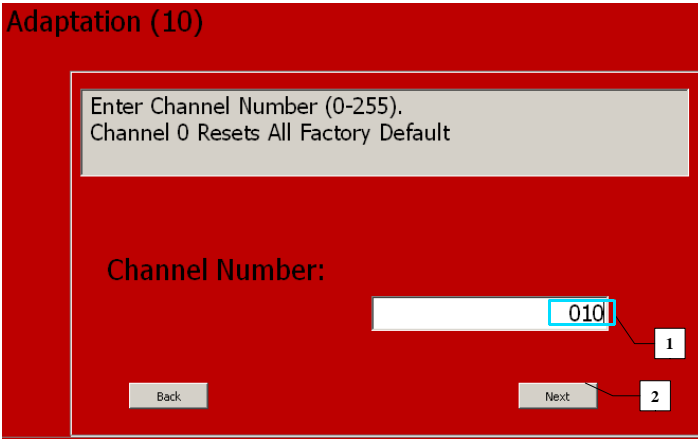
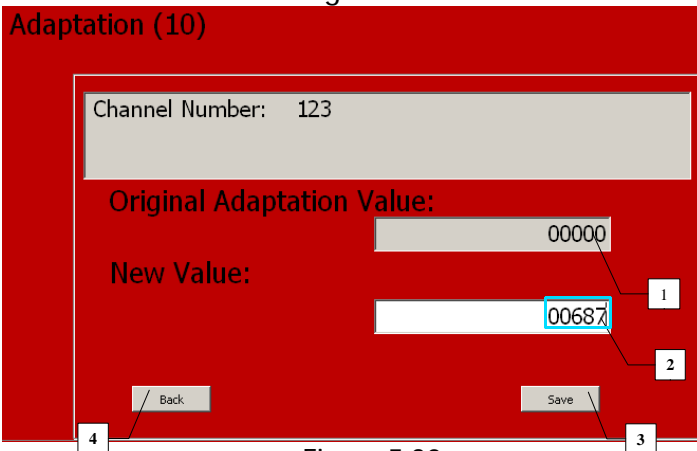

Figure 5.29
Figure 5.30
An example of the procedure of changing adaptation values can be found on following pictures. On the *Figure 5.29* you can see a window used for changing the channel number (1). After pressing Next button (2), a request for current channel number is send. On the *Figure 5.30* you can see a window with the old adaptation value (1) as well as the one with the new one (2).